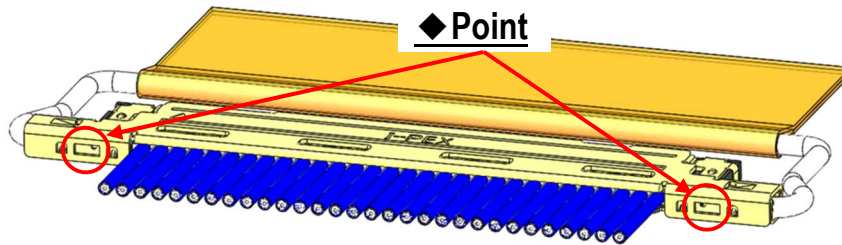

Fig.13 Soldering of SHELL-A and SHELL-B
- ④ Soldering SHELL-A and SHELL-B with the soldering iron at all designated points is recommended. (Fig.13 ◆ point)
※ In case of soldering discrete cable, soldering at Fig.13 ◆ point is necessary.